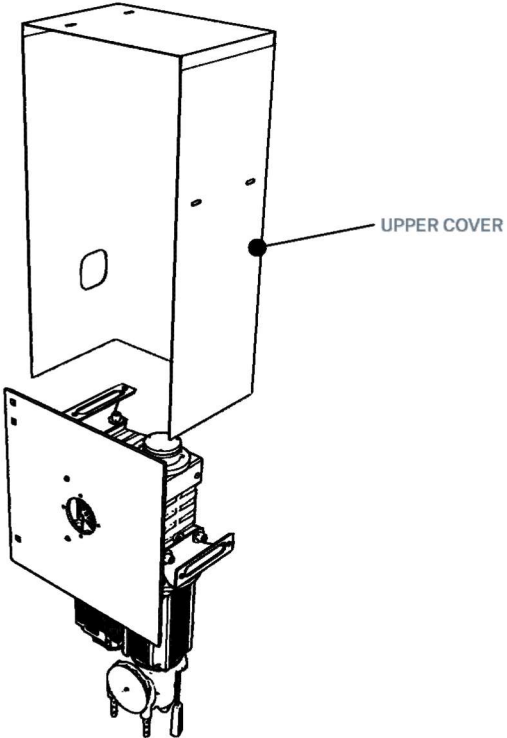

Figure 2 – Upper Cover
3. From the side, installed the **FRONT/TOP COVER**, which comes riveted together, attaching it to the **HOOD MOUNT BRACKETS**. Reference **Figure 2** for installation.